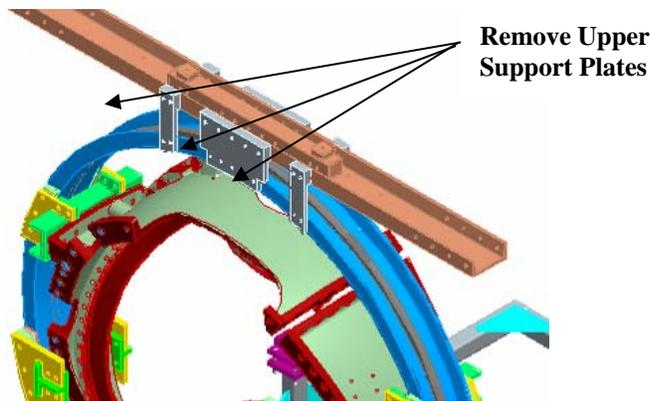

Figure 1- Upper Support Plates
- Using a pneumatic impact wrench, install the upper support plates that secure the support ring to the support/lift beam. This operation must be verified prior to proceeding. See Figure 1- Upper Support Plates